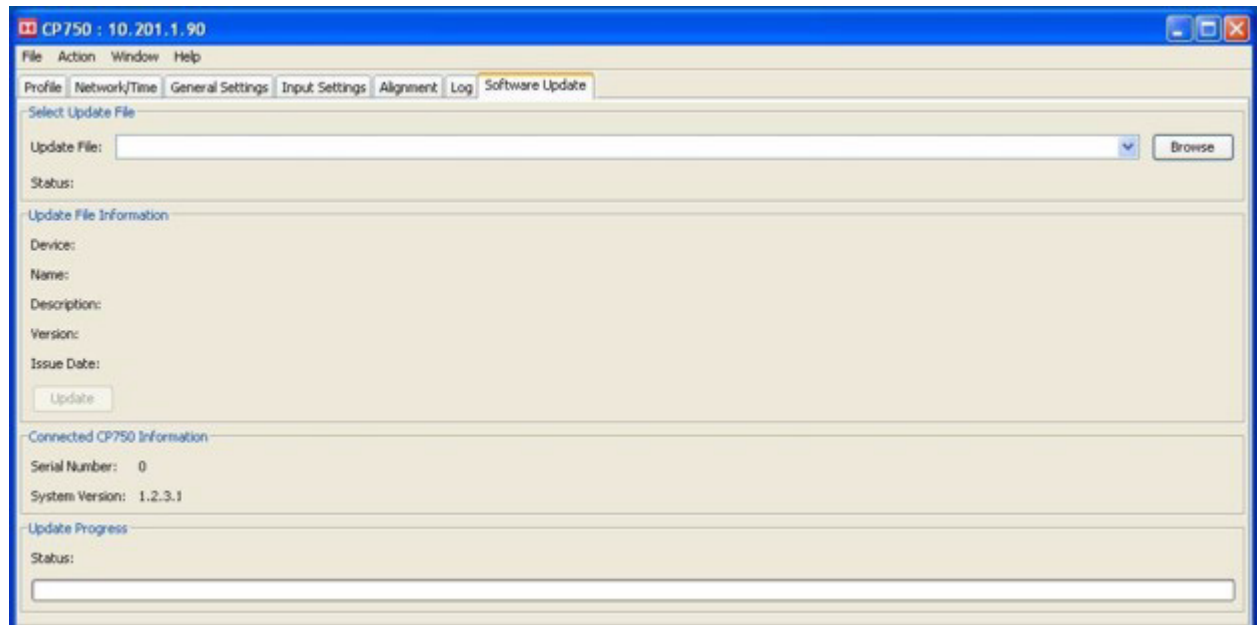

Figure 4-12 Dolby Software Update Screen
4. Click the **Software Update** tab to begin the update process. The tab is shown in Figure 4-12..